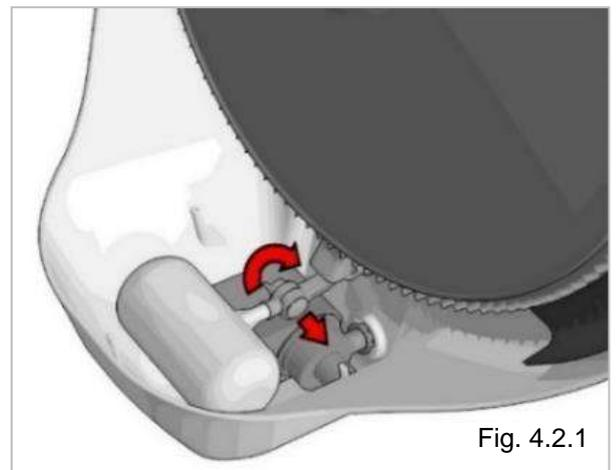

Fig. 4.2.1
- To remove the float: unscrew the plastic wing nut of the float arm (see Fig. 4.2.1).